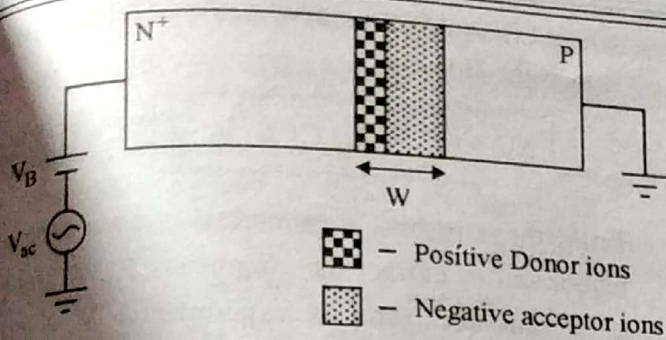

FIG. 4.5 : AN ASYMMETRICALLY DOPED P-N JUNCTION UNDER BIAS CONDITION
- Let's consider the asymmetrically doped junction shown in Fig. 4.5.